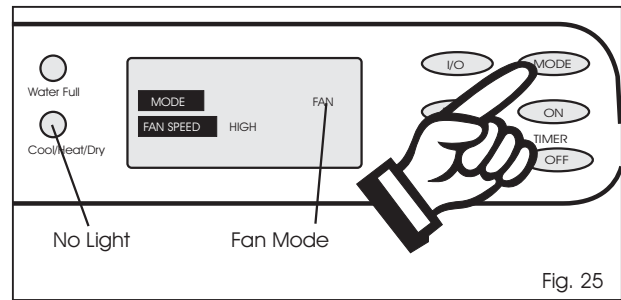

Fig. 25
- 2) Press the **MODE** key until the word **FAN** is displayed in the **LCD** window. Fig. 25. Each depression of the **MODE** key will advance to a different mode setting (**Cool-Heat-Dry-Fan**). No indicator mode light is visible during operation of the **FAN** mode (this is normal).